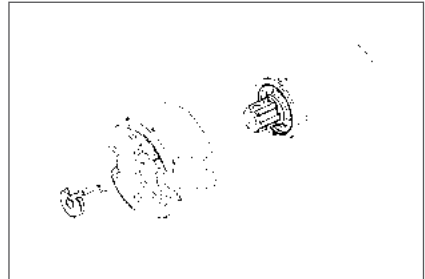

Fig. 2: Coupling locking device*
3. Push on the coupling and plug in the coupling locking device (article number 288500) (Fig. 2).